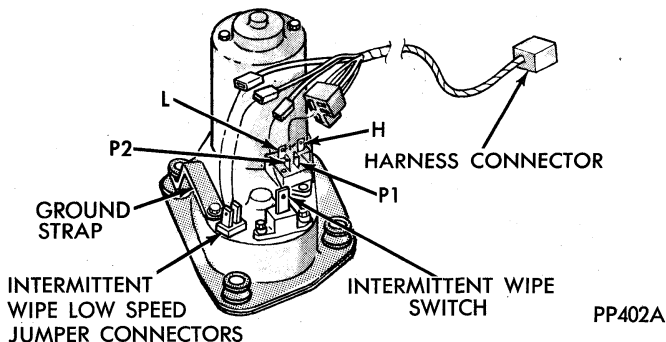

Fig. 8—Intermittent Wiper Motor Terminal Identification
- (1) Place panel switch in low speed position.
- (2) Listen to motor. If you cannot hear it running, proceed to Step No. 3. If you can hear it running, check motor output shaft. If output shaft is not turning, replace gearbox assembly. If it is turning, drive link to output shaft or linkage is not connected properly. Replace worn parts and reconnect.
- (3) Connect a voltmeter or a test lamp between motor Terminal L and ground (See Fig. 8). If there is approximately 12 volts at Terminal L or test lamp lights and panel switch circuit breaker is not cycling, problem is:
- (a) An open ground circuit. Connect a jumper wire from P₂ to ground (See Fig. 8). If motor runs, panel switch is not grounded, panel switch is faulty or there is an open in wiring.
(1) If motor will not run on high speed, put panel switch in high position and connect a test lamp between motor Terminal H and L (See Fig. 8). If motor will not run on low speed, put panel switch in low
position and connect a test lamp between motor Terminal L and P₂ (See Fig. 8).